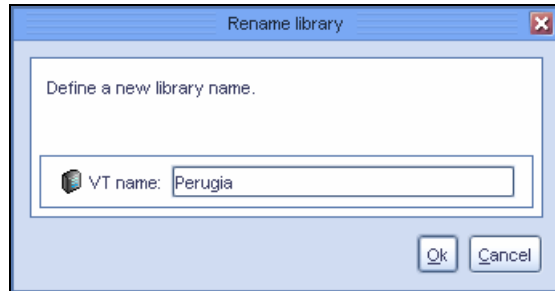

Figure 8-28 Renaming libraries
3. Choose **VT → VT Library → Rename library** (see Figure 8-28 on page 212).